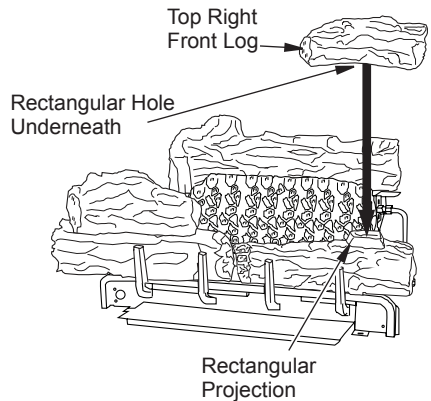

Figure 43 - Installing Top Right Front Log
6. Place top right front log onto front right log. Match the rectangular projection on top of the front right log with the rectangular hole on the bottom of the top right front log as shown in Figure 43. The top right front log will rest on top of the front right log.